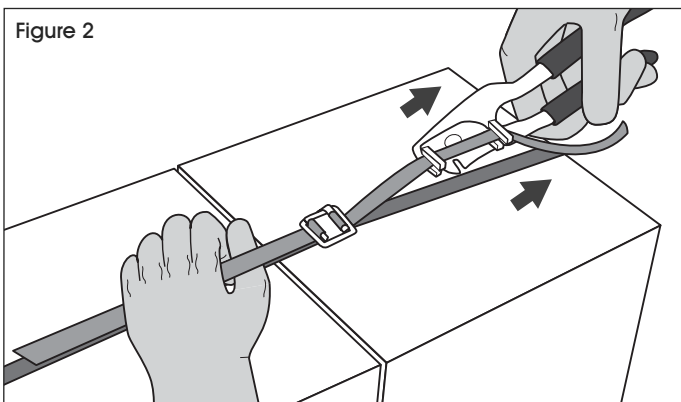

Figure 2
2. Pull the tightener/cutter until poly strapping is tensioned as needed. If necessary, hold down opposite side of strapping with gloved hand to prevent slipping. (See Figure 2)